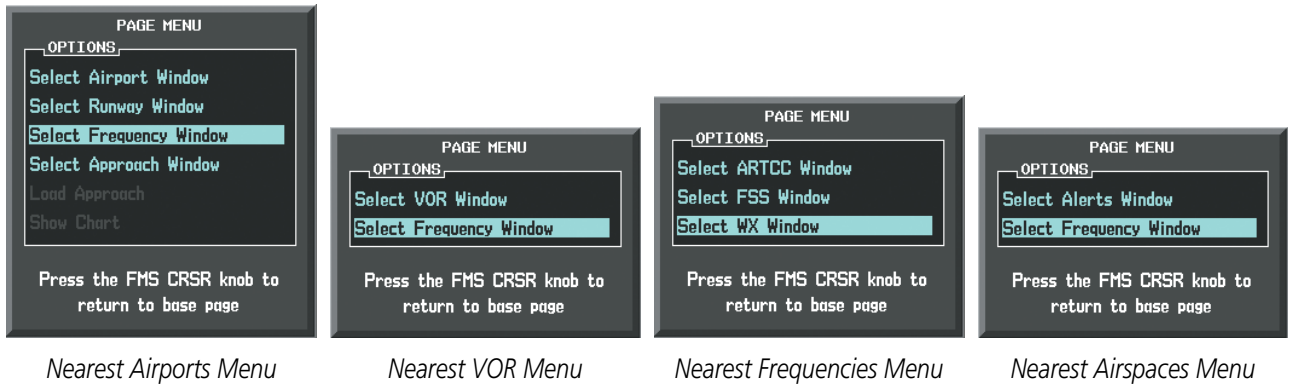

Figure 4-29 Nearest Pages Menus
- 3) On the NRST - Nearest VOR, NRST - Nearest Airspaces, and NRST - Nearest Airports pages, press the **FREQ** Softkey to place the cursor on the NAV frequency (Figure 4-29).